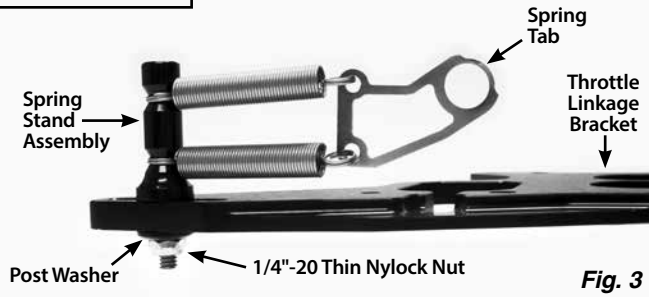
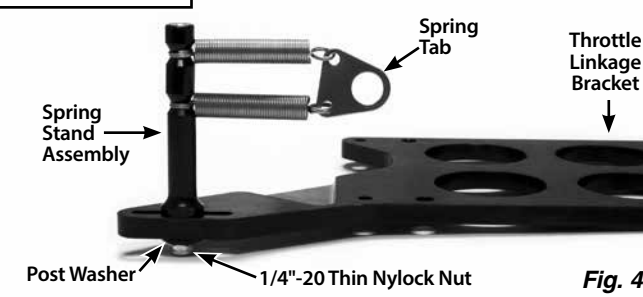

Fig. 3
Fig. 4
Step 1: Remove the 1/4"-20 thin nylock nut and the post washer from the spring stand assembly. Install the spring stand with the springs and spring tab onto the top side of the throttle linkage bracket, into the slot at the front left corner. Install the post washer (beveled edge out) and 1/4"-20 thin nylock nut on the bottom. Fig. 3 and Fig. 4